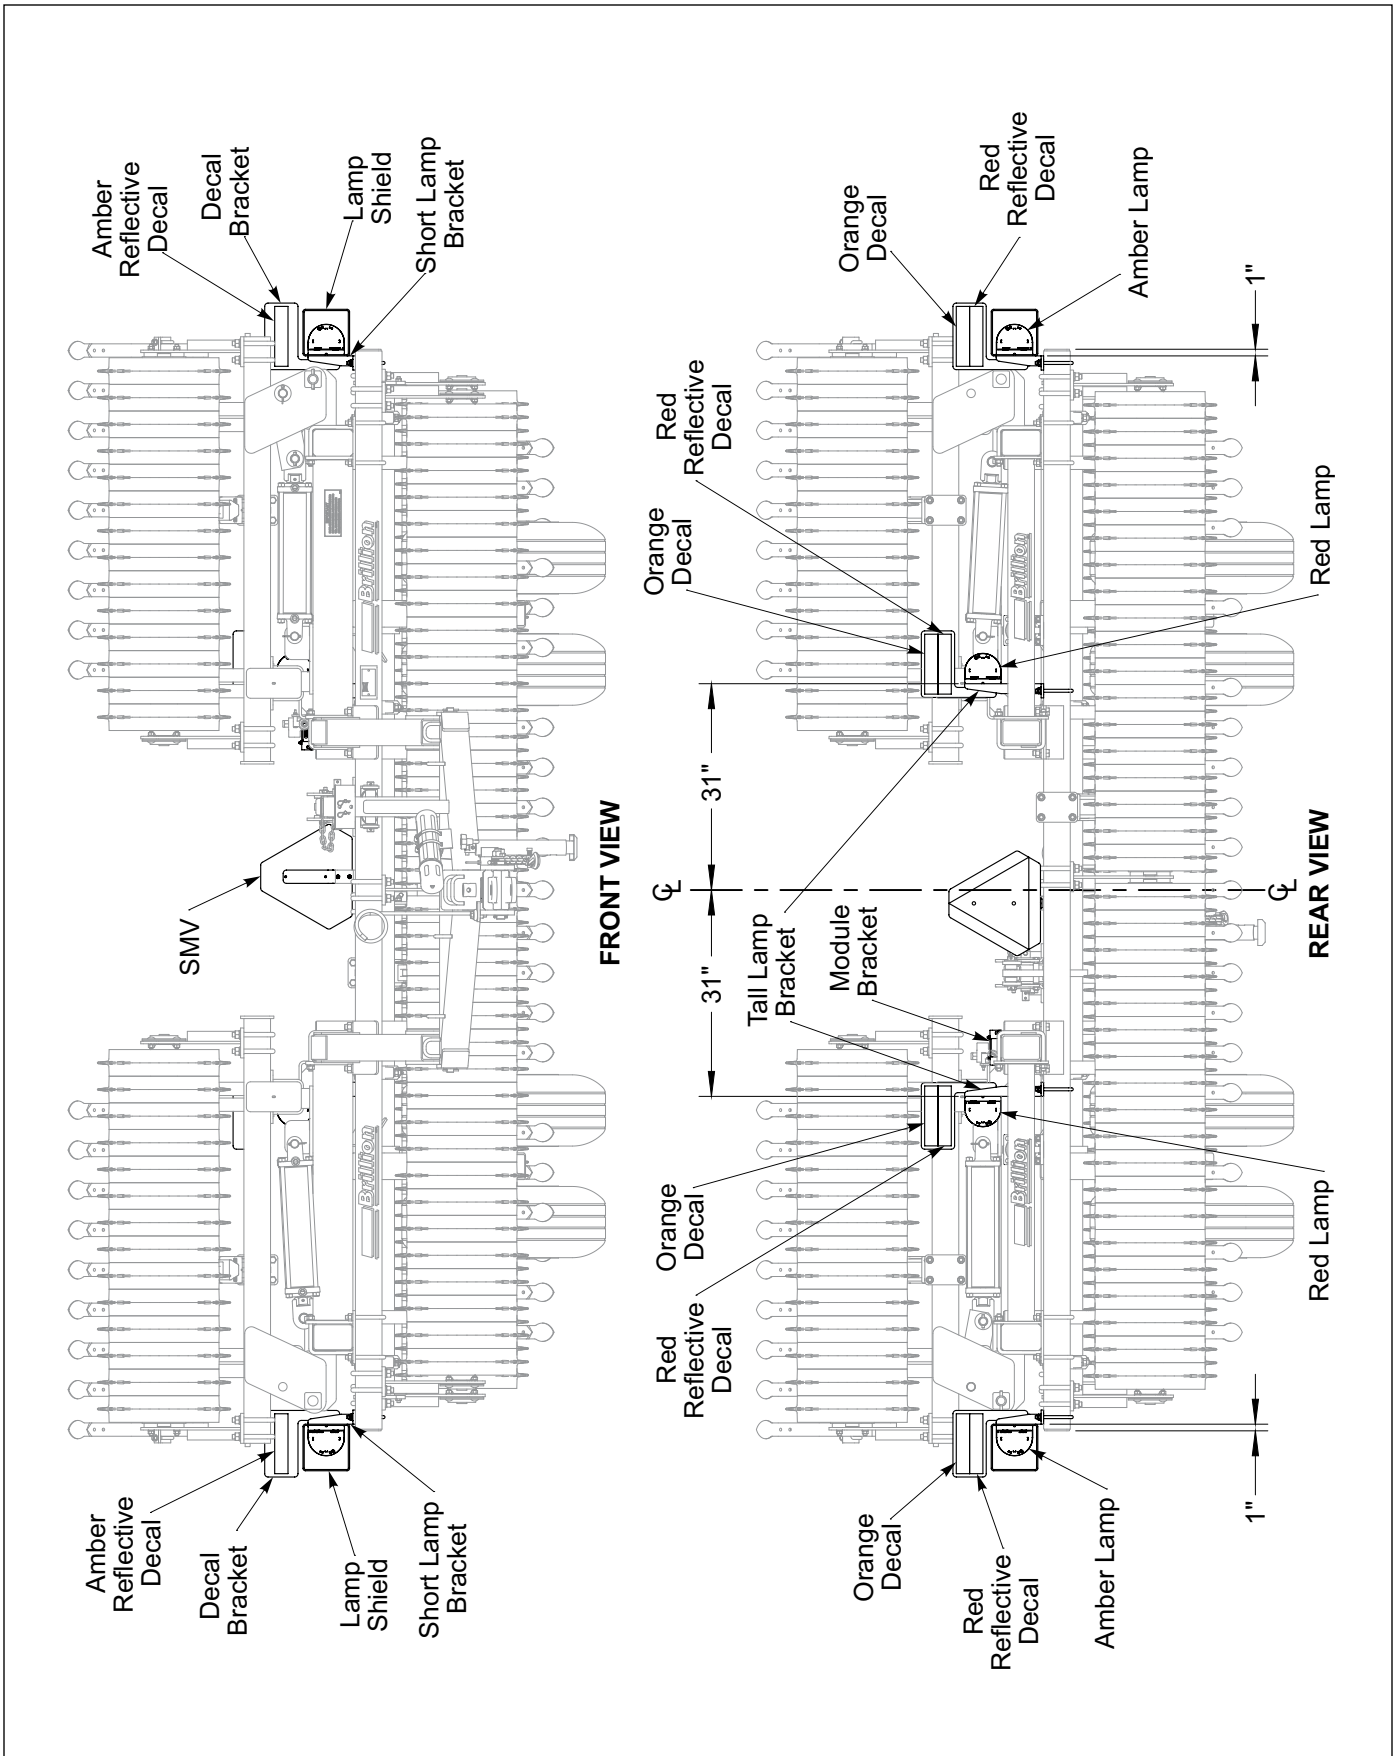

Figure 2-42: Light Installation
1. Install a Tall Lamp Bracket approximately 31 inches from center line on each side of the rear frame tube using 1/2-13 U-Bolts and Flanged Locknuts. **See Figure 2-42.**
3. Install a Short Lamp Bracket approximately 1 inch from each end of the rear frame tube using 1/2-13 U-Bolts and Flanged Locknuts. **See Figure 2-42.**